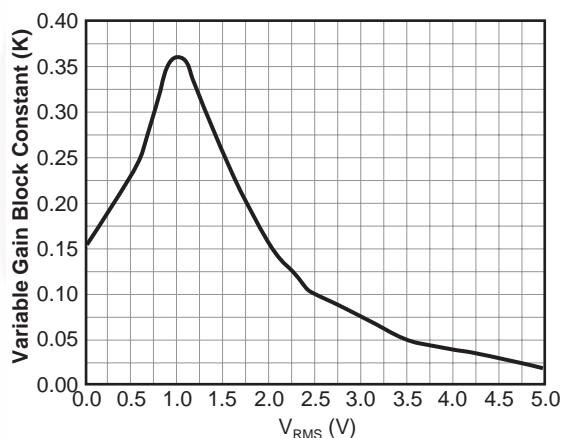

Figure 5. Gain Modulator Transfer Characteristic (K)
2. A voltage proportional to the long-term RMS AC line voltage, derived from the rectified line voltage after scaling and filtering. This signal is presented to the gain modulator at V_{RMS} . The output of the gain modulator is inversely proportional to V_{RMS}^2 (except at unusually low values of V_{RMS} , where special gain contouring takes over to limit power dissipation of the circuit components under heavy brownout conditions). The relationship between V_{RMS} and gain is called K and is illustrated in Figure 5.